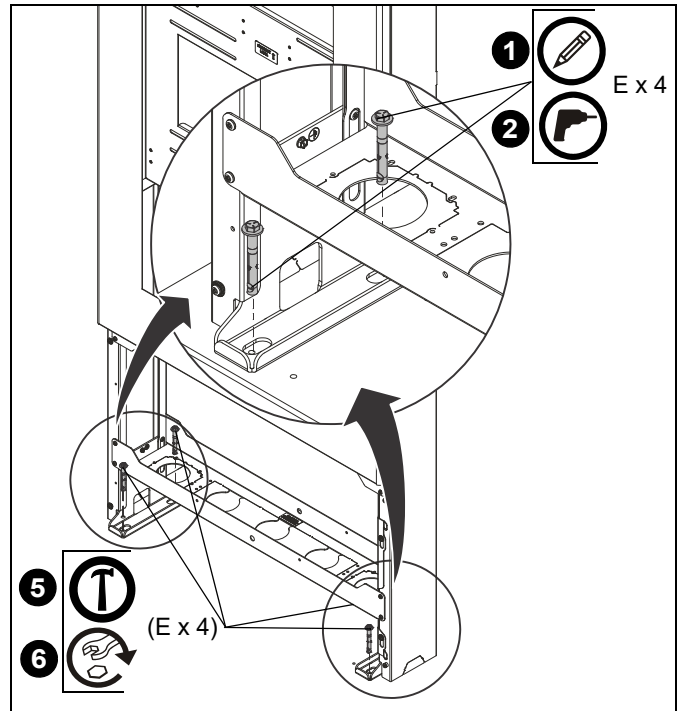
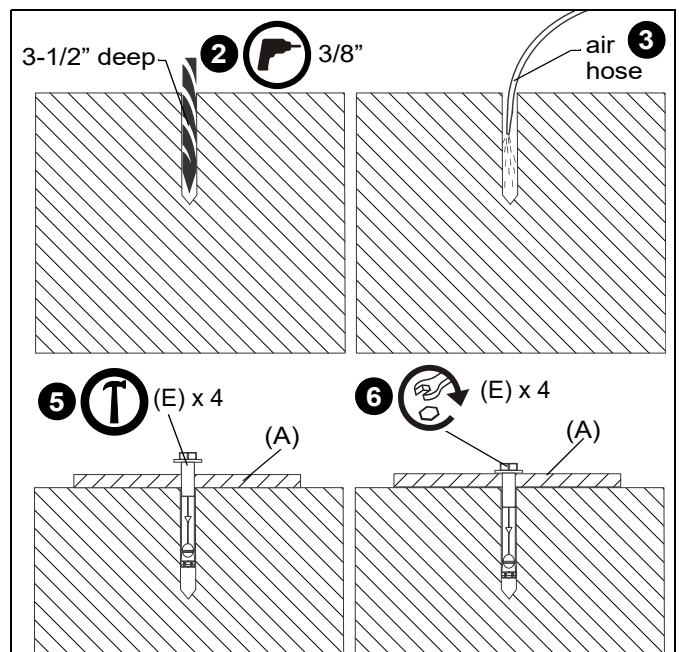

Figure 4
Figure 5
- Using kiosk (A) as a template, mark center of four mounting holes (the holes where kiosk was attached to pallet) and move kiosk to allow access to drill holes. (See Figure 4)
- Using a 3/8" drill bit, drill a hole 3-1/2" in depth at each marked location. (See Figure 4) and (See Figure 5)
- Blow each hole clean of any concrete debris with an air hose or compressed air in a can. (See Figure 5)
- Place kiosk (A) on top of drilled holes making sure that drilled holes are centered within the mounting holes in kiosk.
- Use a hammer to drive anchors (E) through kiosk mounting holes into the drilled holes until the bolt head is firmly seated against the kiosk. (See Figure 4) and (See Figure 5)
- Tighten each anchor by turning the head three to four turns past finger tight. (See Figure 5)